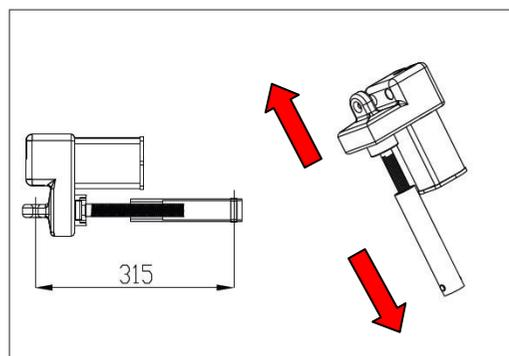

Figure 4.7.4
3) As shown in Figure 4.7.4, the incline motor should be adjusted to a minimum stroke of 315 mm.